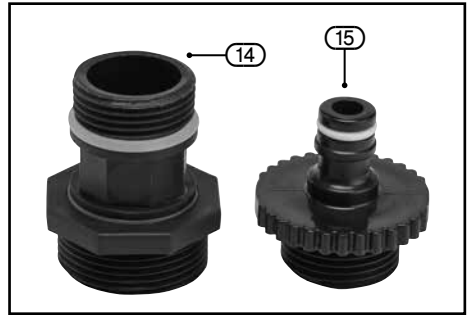

FIG.1
8.1 CONNECTING THE HOSES – FIGS. 1 – 4